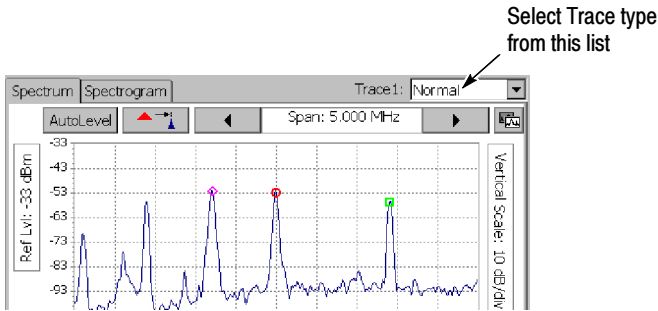

Figure 3-2: Setting the trace type
- Select the desired trace type from the drop-down list. See Figure 3-2.